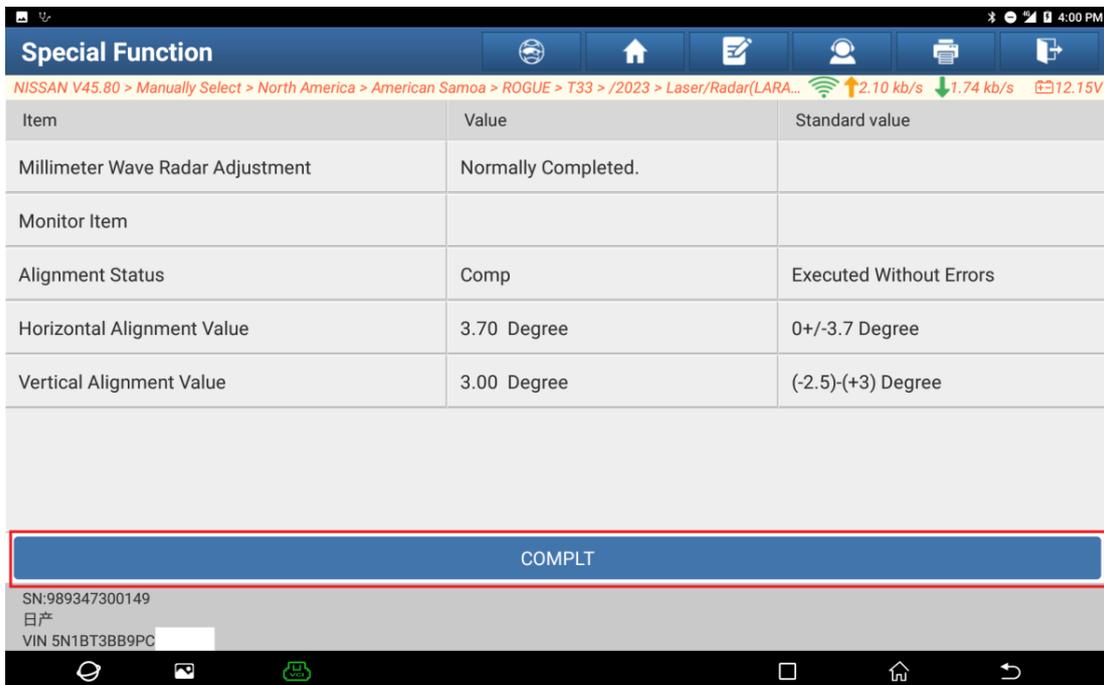

Figure 19
17. The millimeter wave radar adjustment is successful and completed (as shown in Figure 19).